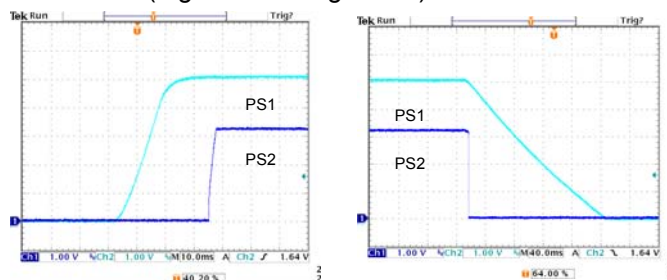

Figure 40: Sequential
Option code C: Implementation of advanced power tracking techniques is based on connecting the power good signal or selecting proper value for external resistor R1 (Figure 40 to Figure 43).
Sequential start-up (Figure 40) is implemented by connecting the power good pin of PS1 to the TRACK pin of PS2 with a resistor-capacitor (RC) circuit. Suggest to use 1μF ceramic capacitor and 2KΩ resistor here. Besides, this configuration requires PS1 to have a power good function.